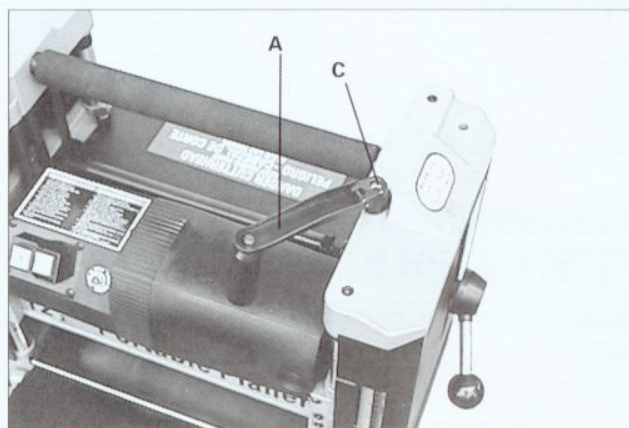

Fig.8
2. Fasten cutterhead raising and lowering handle (A) Fig.8, to shaft using the M5x20mm hex socket head screw(C) with wrench supplied.